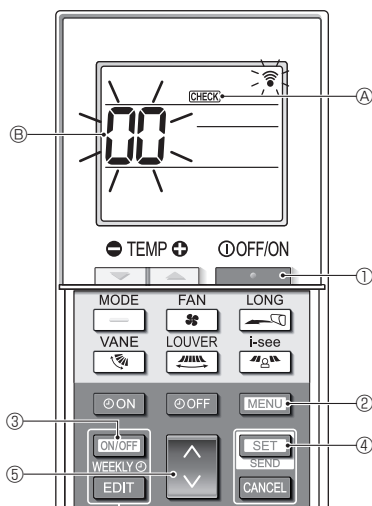

Fig. 7-6
■ Self-check (Fig. 7-6)
- Press the [ON/OFF] button ① to stop the air conditioner.
- If the weekly timer is enabled (WEEKLY is on), press the [ON/OFF WEEKLY] button ③ to disable it (WEEKLY is off).
- Press the [MENU] button ② for 5 seconds.
- CHECK ④ comes on and the unit enters the self-check mode.
- Press the [MODE] button ⑤ to select the refrigerant address (M-NET address) ⑥ of the indoor unit for which you want to perform the self-check.
- Press the [SET] button ④.
- Press the [ON/OFF] button ①.
- CHECK ④ and the refrigerant address (M-NET address) ⑥ go off and the self-check is completed.